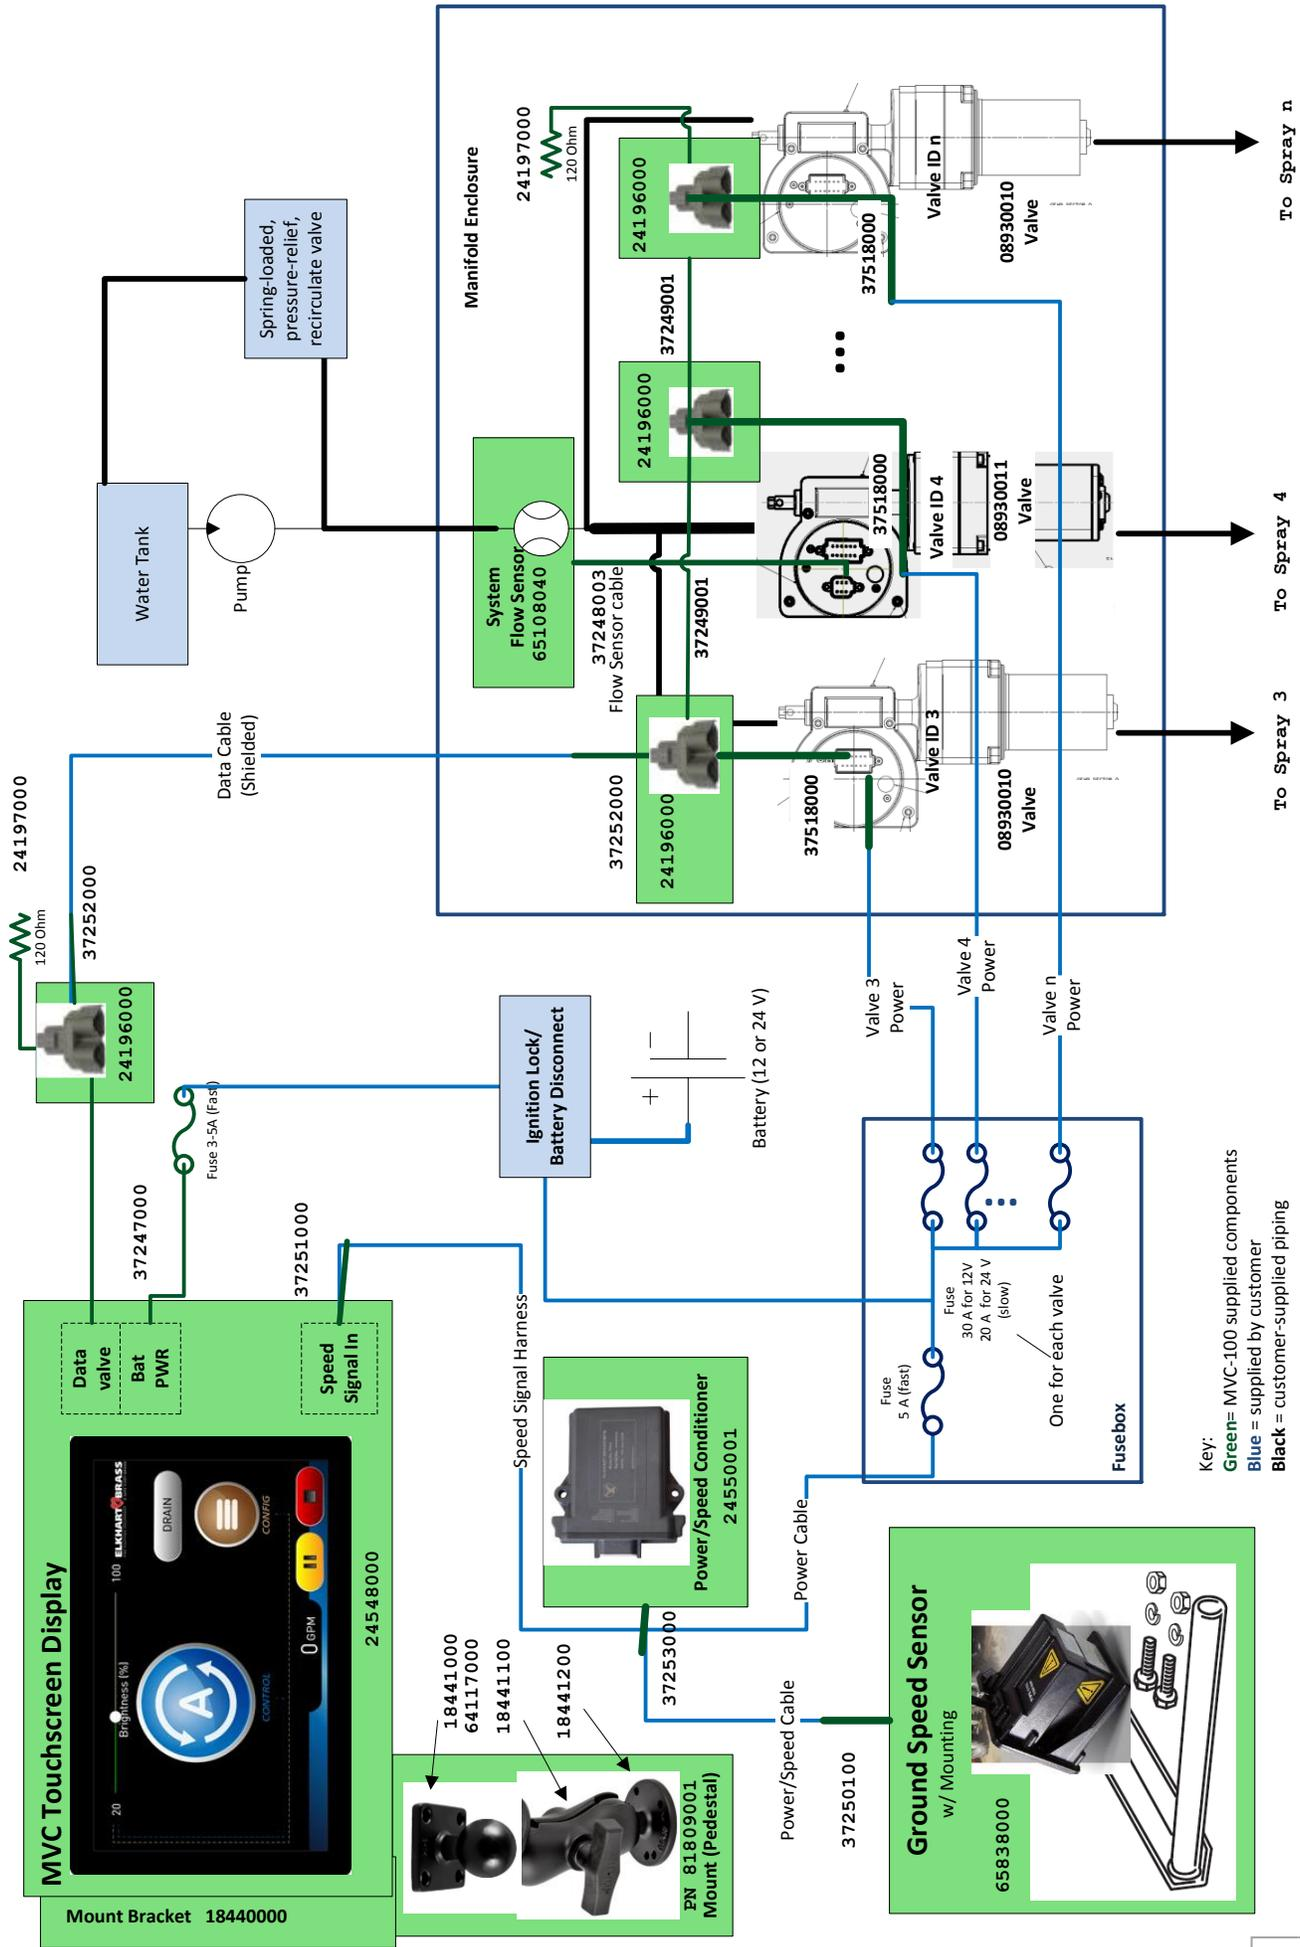
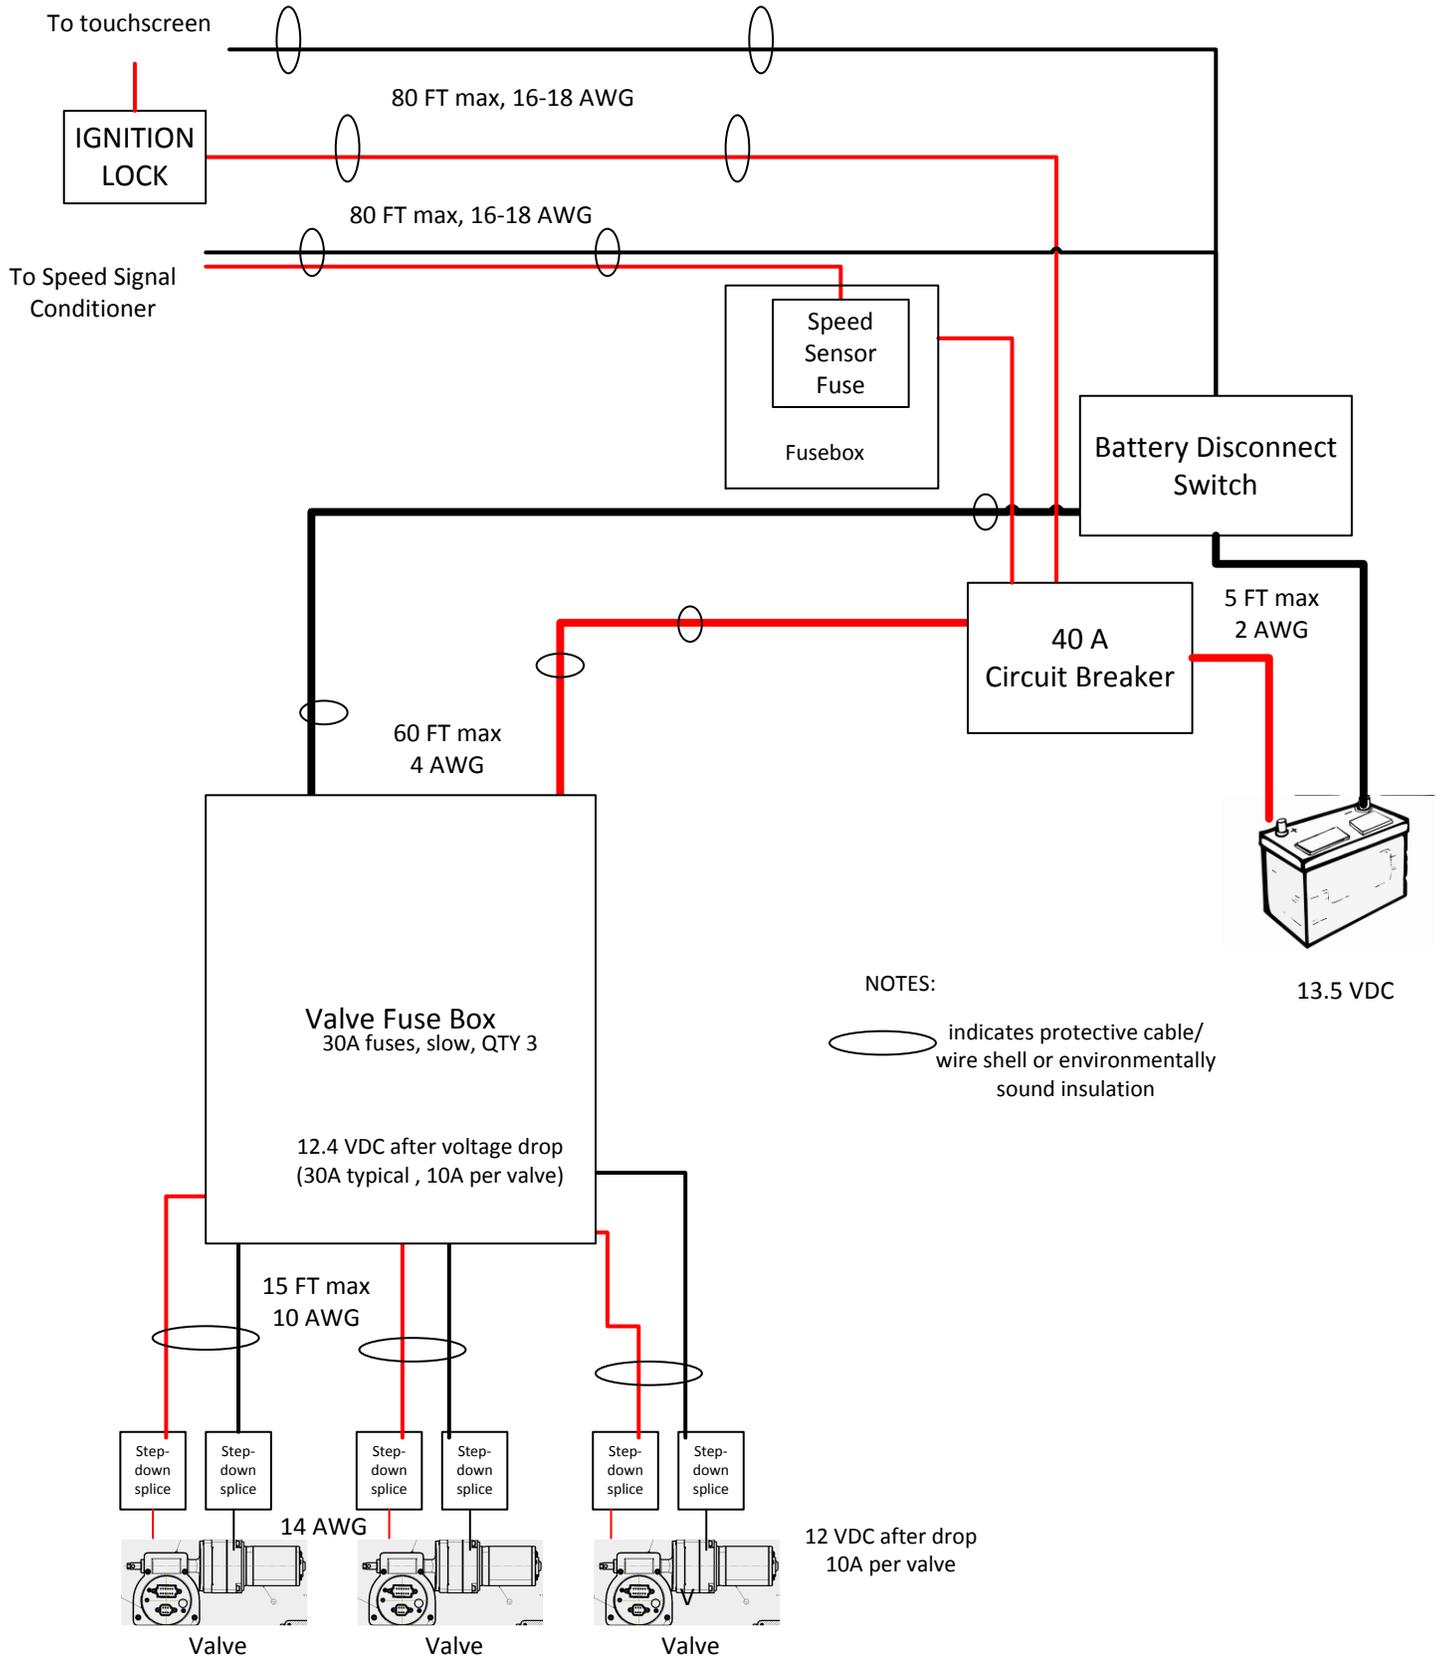
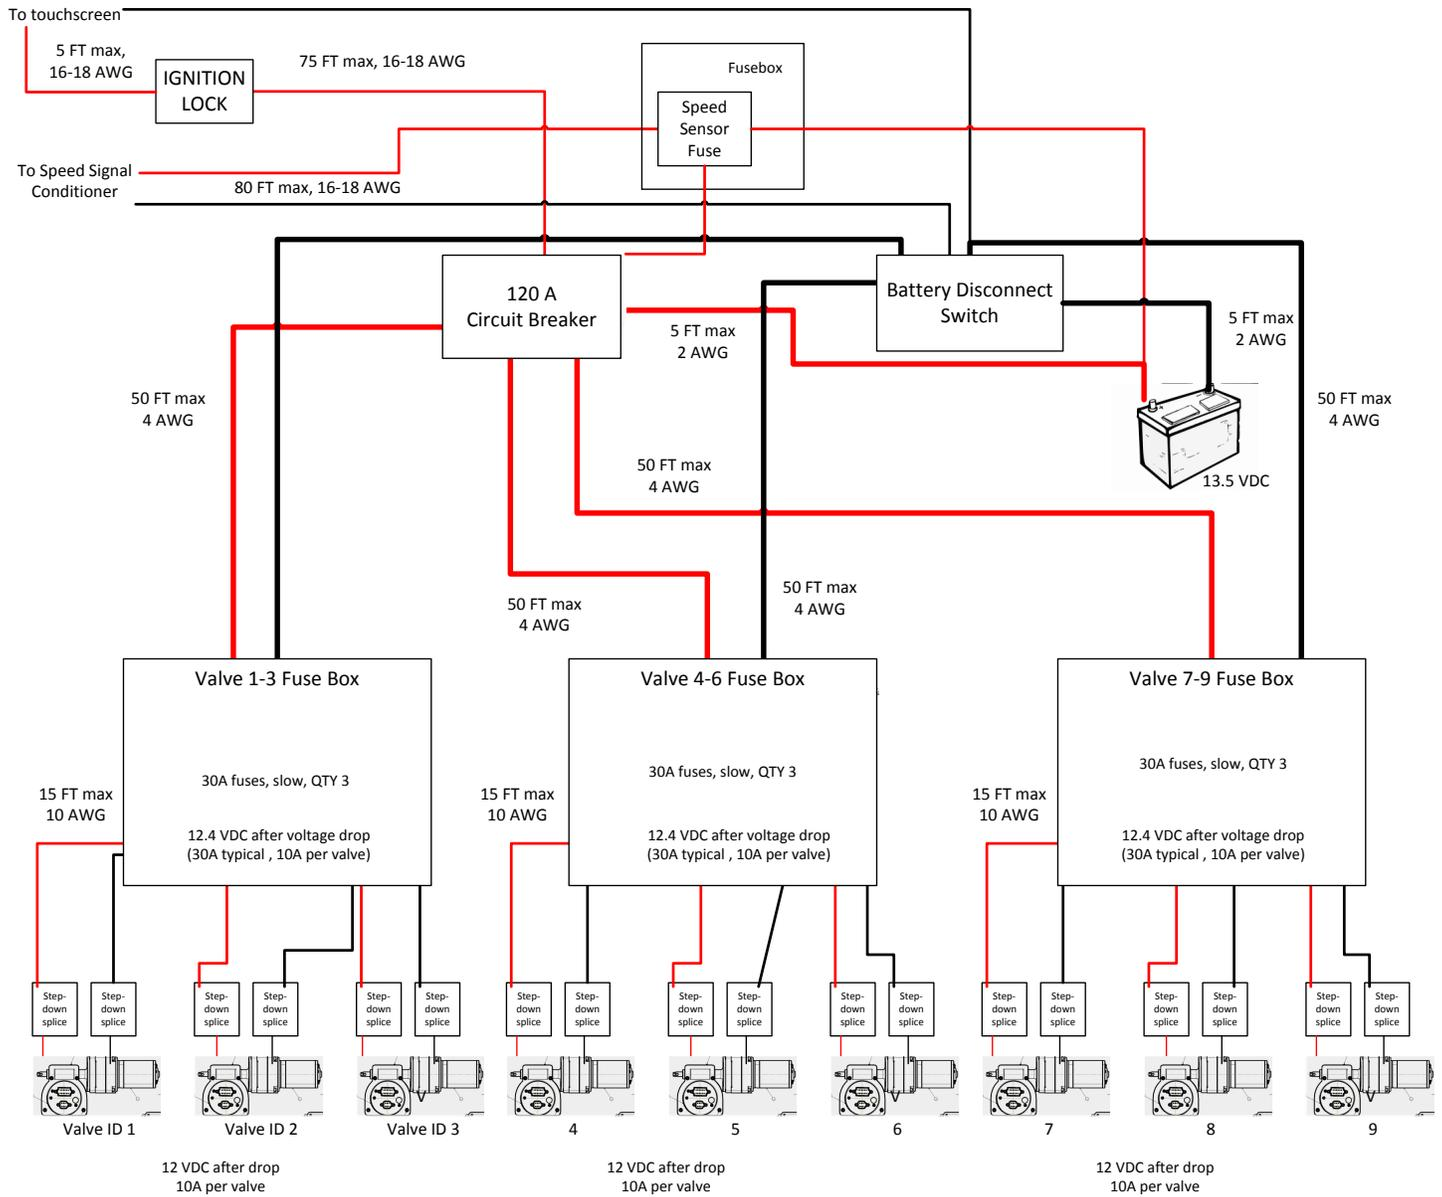
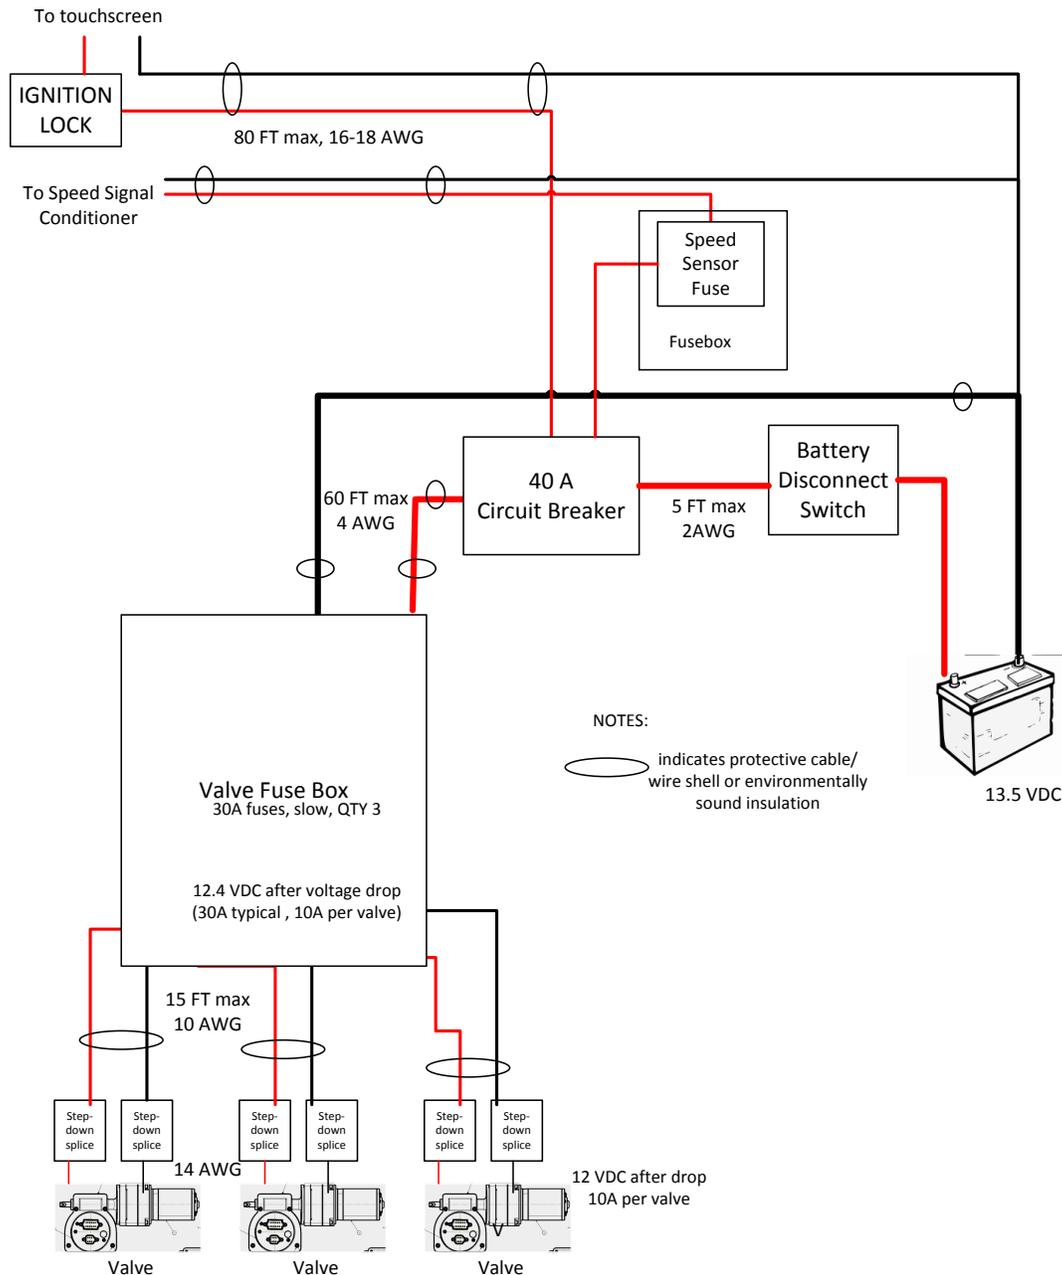

Figure 20. MVC Wiring for a Partial System
Figure 22. Minimum Sized Wiring for 12V System with 3 Valves
Figure 23. Minimum Sized Wiring for 12V System with 9 Valves
Figure 24. Wiring when the Battery Disconnect Switches Power
An overview of the wiring for 08700110 is shown in Figure 20.
Each MVC component needs to be wired through its own fuse. The power leads for the MVC Touchscreen Display is provided with an inline fuse holder with fuse. Fuses and fuse holders for other components are customer-supplied. Failure to install the components with fuses will void the warranty. Refer to Figure 20 for fuse sizing.
An example of the **minimum** sized wiring that would be required for a 3 valve, 12V system with a battery/alternator operating at 13.5 VDC is shown in Figure 22. This could also be used for a 24V system if valve fuse sizes are reduced to 20 A.
An example of the **minimum** sized wiring that would be required for a 9 valve, 12V system with a battery operating at 13.5 VDC is shown in Figure 23. This could also be used for a 24V system if the valve fuse size is reduced to 20A. This wiring assumes all 9 valves would be used during automatic operations.
If the vehicle's battery-disconnect switch disconnects the power instead of the ground, then a different configuration is needed than that shown in the previous wiring examples. Example wiring for a three-valve, 12VDC system with the battery disconnect switch attached to power is shown in Figure 24. This can be applied for more valves and/or a 24VDC system.
- Refer to the previous wiring diagrams, Figure 20, Figure 22, Figure 23, and Figure 24 for overall and example power/ground connections.